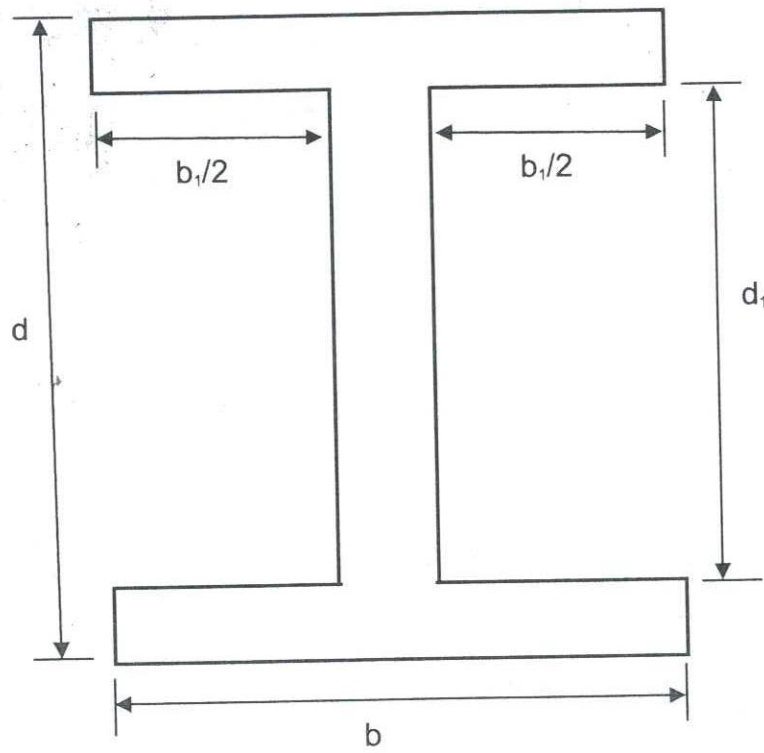

Figure Q3
- Q3.** Consider an I-section beam (**Figure Q3**) which is subjected to a bending moment.